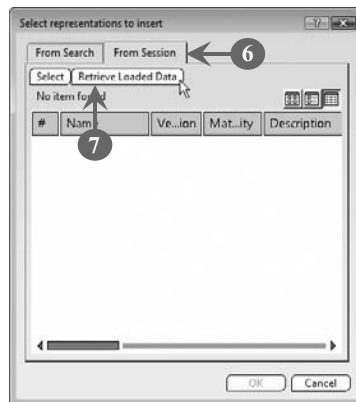

FIGURE 4.16
The **Select representations to insert** dialog box opens (Figure 4.16).
6. Select the **From Session** tab to open the page associated with this tab (Figure 4.16).
7. Click the **Retrieve Loaded Data** button, as shown in Figure 4.16: